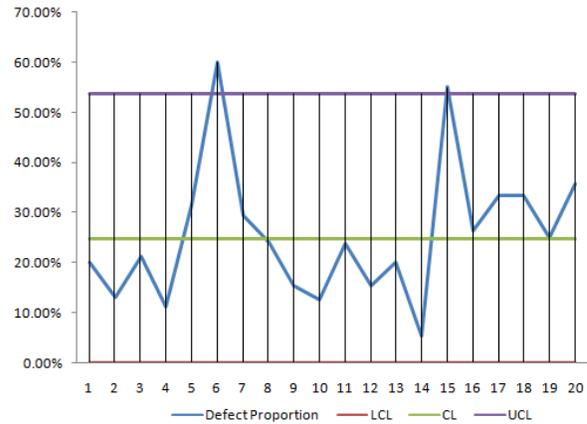

Figure 2: Example quality control p-chart
Sometimes the specification limits are not set; instead, statistical control limits are computed based on the actual data collected (e.g., the number of defects in a manufacturing line). For instance, in Figure 2, we see 20 sample experiments or samples taken at various times of a manufacturing process. The number of samples taken varied over time, and the number of defective parts were also gathered. The upper control limit (UCL) and lower control limit (LCL) are computed, as are the central line (CL) and other sigma levels. The resulting chart is called a control chart, and if the process is out of control, the actual defect line will be outside of the UCL and LCL lines. Typically, when the LCL is a negative value, we set the floor as zero, as illustrated in Figure 2.